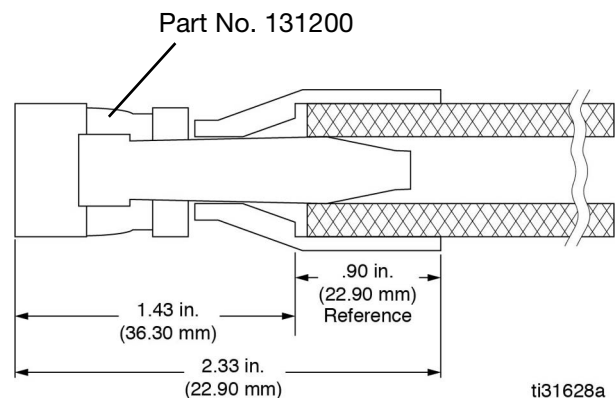

FIG. 56
After determining the final length of hose needed for the installation, install the reusable swivel fitting Part No. 131200 (included with the hose) to the bare end of the hose (see FIG. 56). Follow the Main Hose Assembly instructions provided in the next section of this manual (page 59).
3. Add 1.43 inches (36.30 mm) to the total hose length to accommodate the depth of the socket after it is installed on the end of the hose (FIG. 56).